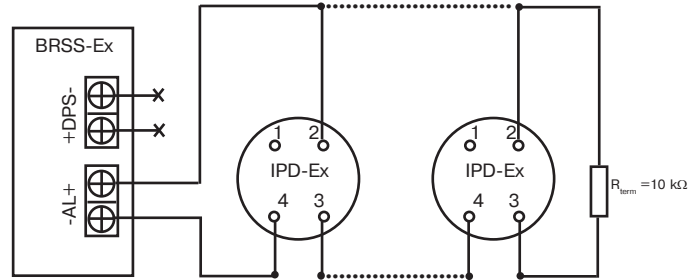

Figure 1 – Recommended pattern of IPD-Ex connection to BRSS-Ex (the number of IPD-Ex connected to a single BRSS-Ex loop should not exceed 10)
4.2.3 Connect input wires to the IPD-Ex base in accordance with the diagram (Figure 1). Maximum electrical conductor cross-section area is 0.75 mm².